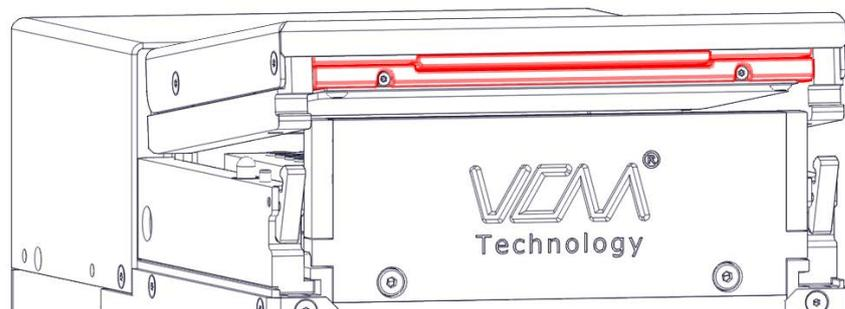

Fig.45: Closing procedure
- Push back the bar (shown in red) and hold it in this position (fig. 45).